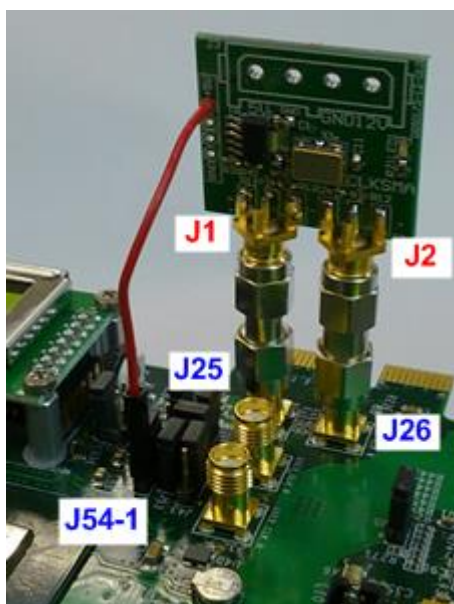

Figure 2-1 CLKSMA board connecting to AC701 board
- Connect CLKSMA board to AC701 via SMA connector at J1, J2 on CLKSMA board to J25, J26 on AC701 board sequentially as shown in Figure 2-1.
- Connect power (Red cable) on CLKSMA board to J54-1 on AC701 board as shown in Figure 2-1.